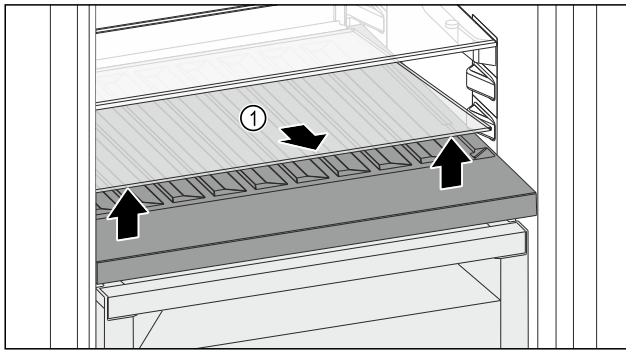

Fig. 146
- ▶ Lift the glass shelf Fig. 146 (1) at the front and remove.
- ▶ Store the glass shelf Fig. 146 (1) in a safe place outside the appliance.
- ▶ Insert the glass shelf (2) under the variable bottle rack.